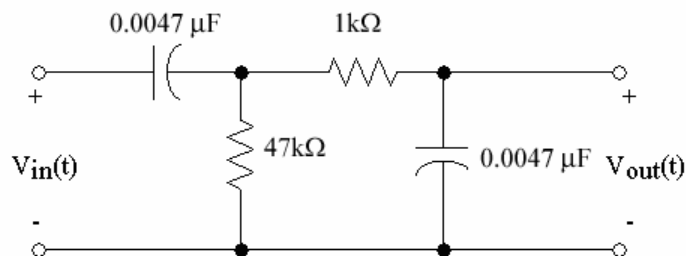
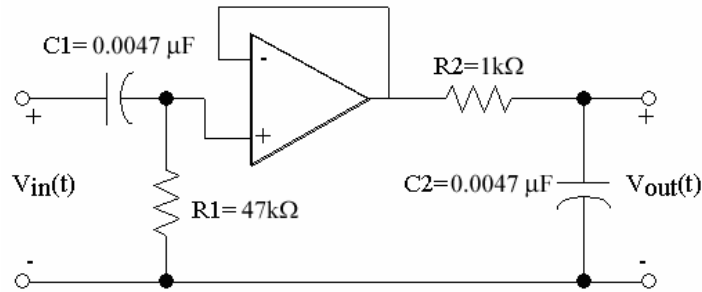

Figure 1. Band pass filter.
Figure 2. Buffered Band pass filter
You should have built and measured the performance of a band pass filter that consisted of a high pass filter in series with a low pass filter, as shown in Figure 1, in the previous lab. The frequency response for this filter is significantly different from a simple sum of the separate filter responses since the second circuit loads the first. One of the great applications of the operational amplifier is to use an op amp buffer amplifier to isolate two circuits so that the second is not loaded by the first. In this lab you will examine a bandpass filter where the two filter sections are isolated by inserting an op amp buffer, as shown in Figure 2.
The transfer function, H(j ω), for the buffered band pass filter shown in Figure 2 can be mathematically shown to be
1. Build the circuit shown in Figure 2. Use a 741 op amp and **be sure to connect the power supply**. Use $\pm 15V$ for $\pm V_{CC}$. You should check the operational status of the 741 before using it. (The pinout diagram for the 741 is shown in Figure 7.)